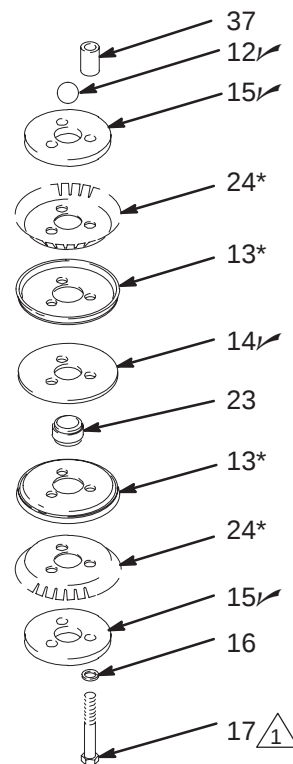

Fig. 4
5. Place a washer (16) on each of the three screws (17). Assemble the piston as shown for your pump model (see Fig. 4). Place the piston valve seat (23) in the center of the piston assembly so its lip bottoms out. Continue stacking the parts on the screws (17) as shown. Place the piston ball (12) on the seat (23).
6. Place a piston spacer (37) on each of the screws (17). Apply thread sealant to the screws and screw the piston assembly into the lower cap (38f). Torque the screws (17) to 350–370 in-lb (40–42 N.m). See Fig. 4.